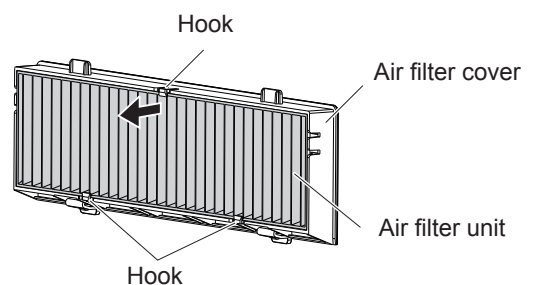

Fig.2
- The air filter unit is fixed by the three hooks. Grasp the fibre of the air filter unit near to the cover side with one hook and then pull the air filter unit out from the air filter cover as arrow direction shown. (Fig.2)